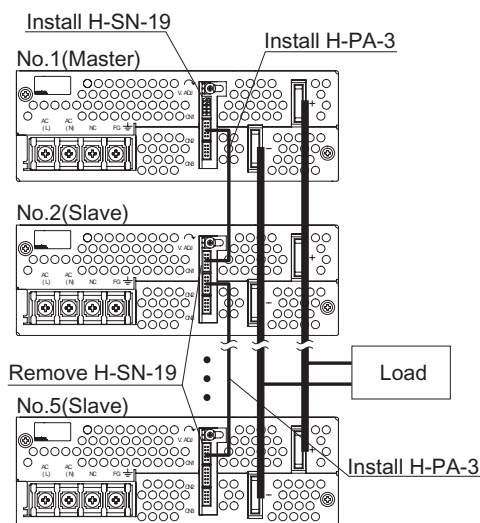

Fig.4.3 Example of parallel connection
■ You can use the power supplies in parallel operation by connecting units as shown in Fig.4.3.